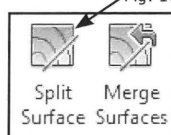

Fig. 10.57.
- Klik *Massing & Site - Split Surface* (Fig. 10.57).